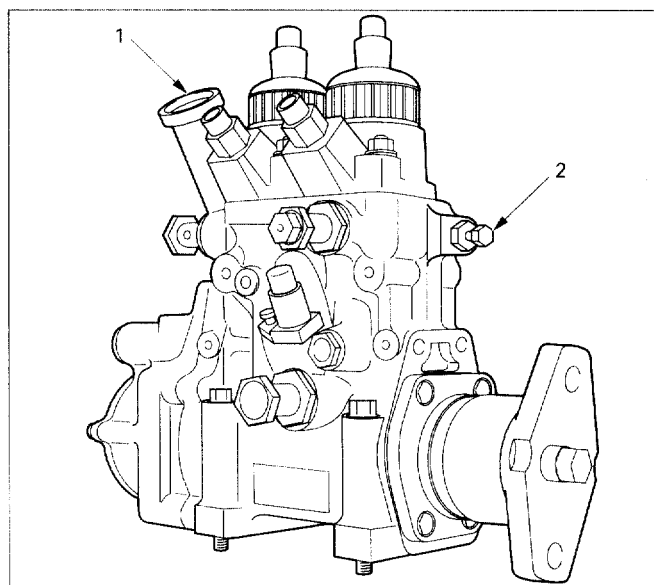
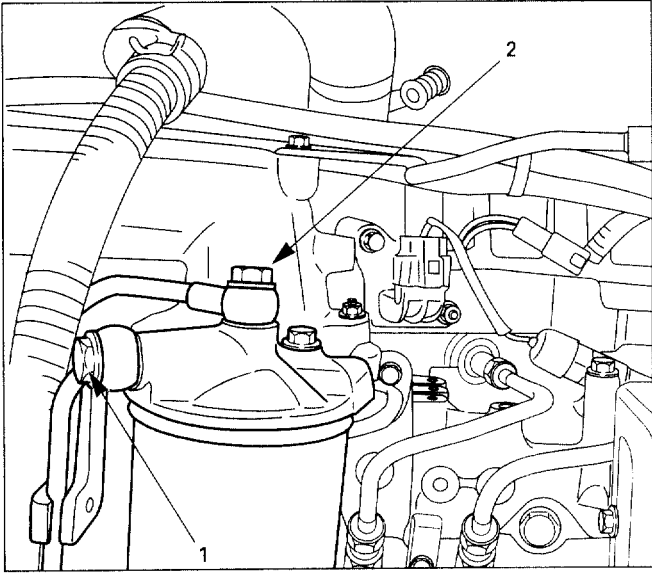

Figure 19 – Supply Pump
Figure 20 – Fuel Filter
1. Loosen the primer pump knob (1, Figure 19) on the fuel supply pump.
2. Loosen the fuel feed line eye bolt (1, Figure 20) on the fuel filter.
3. Pump the primer pump (1, Figure 19), until a solid stream of fuel comes from the fuel filter feed line eye bolt (1, Figure 20).
5. Loosen the fuel feed line eye bolt (2, Figure 20) on the fuel filter.
6. Pump the primer pump (1, Figure 19), until a solid stream of fuel comes from the fuel feed line eye bolt (2, Figure 20).
7. Tighten the fuel filter eye bolt (2, Figure 20).
8. Loosen the air bleeding plug (2, Figure 19) on the supply pump.
9. Pump the primer pump (1, Figure 19), until a solid stream of fuel comes from the air bleeding plug (2, Figure 19).